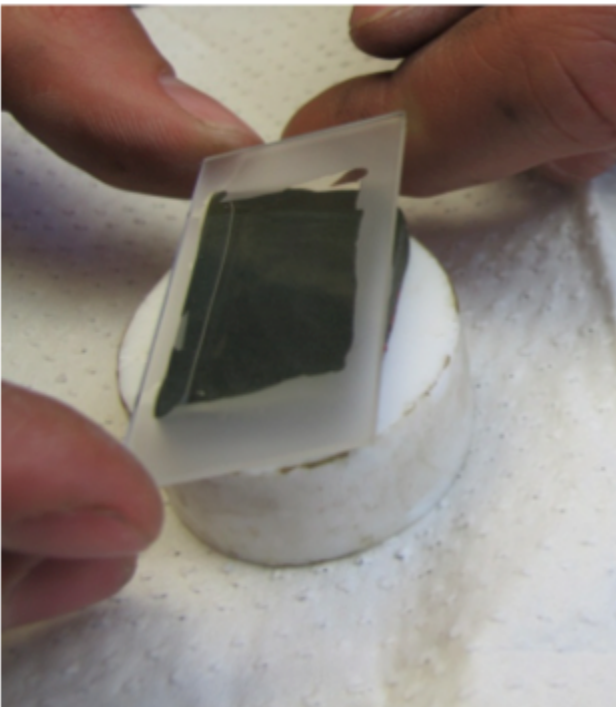

Figure 7
4. Place the slide with resin side down onto the sample from left to right (Fig. 7). Lay down very slowly to prevent making bubbles.